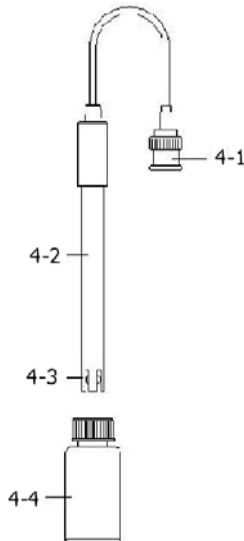

Fig. 2
" Probe Plug " (4-1, Fig. 2) into the " pH Socket/BNC
- 4) Hold the " Electrode Handle " (4-2, Fig. 2) by hand
and let the " Sensing head " (4-3, Fig. 2) immersed
When not use the Electrode, it should immerse the " Electrode sensing head " (4-3, Fig. 2) into the " Protection bottle " (4-4, Fig. 2)
- 1) Prepare the pH Electrode (optional), install the " Probe Plug " (4-1, Fig. 2) into the " pH Socket/BNC Socket " (3-16, Fig. 1).
- 4) Hold the " Electrode Handle " (4-2, Fig. 2) by hand and let the " Sensing head " (4-3, Fig. 2) immersed wholly into the measured solution and little shake the probe. Display will show the pH value.